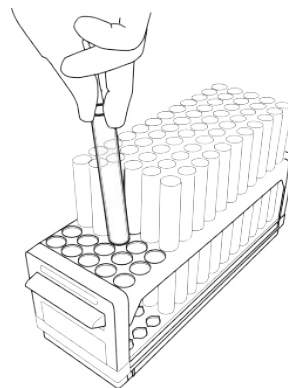

Figure 2-13 Loading test tubes
1. Insert test tubes, vials, or bottles into the rack (Figure 2-13). The system assumes all tube positions have tubes. If any tubes are missing, it is possible to have a fluid spill when the fraction collection system advances to that position